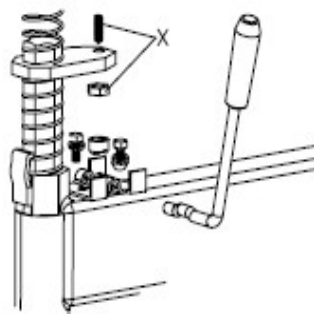

Fig 12
**Note: If Hexagonal Vertical Arm not be locked or not meet the requirement that 2-3mm from the bottom of Mounting/demounting head to rim, please adjust Hexagonal Locking Plate, refer to Fig 12 and adjust the (X).**